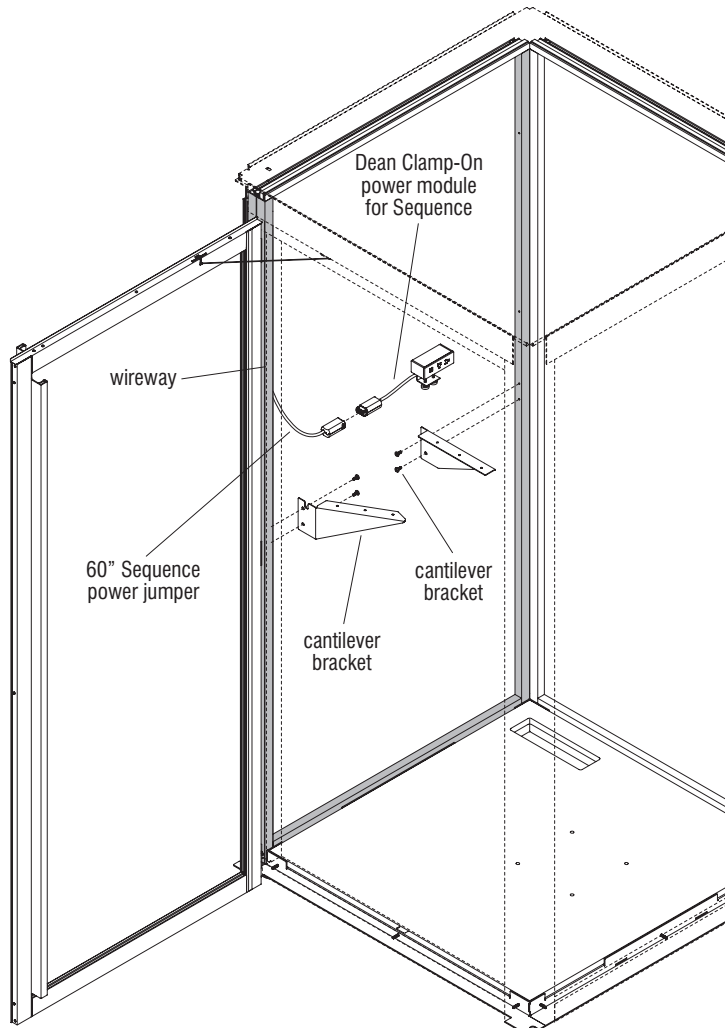

Figure 25
8. One side at a time, position the appropriate cantilever bracket as illustrated to the side frame of the side wall. Align the mounting holes of the bracket with the pre-drilled holes on the frame. Secure the bracket to the frame using two $\frac{1}{4}$ -20 x $\frac{1}{2}$ " Torx thread forming screws. Repeat this process to secure the second bracket (Figure 25 & Detail S2).
10. Take the female end of the 60" Sequence power jumper and remove it from the wireway (Figure 25 & Detail T2).
11. Plug the female end of the 60" Sequence power jumper into the male end of the Dean Clamp-On power module and have one person remain holding the unit for the next step (Figure 25 & Detail T2).